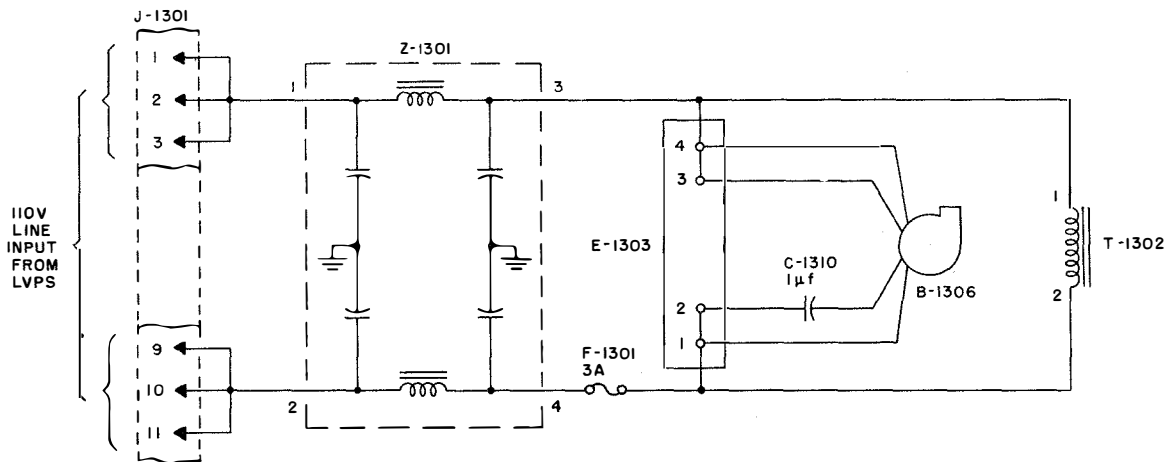

Figure 2-109. R-F Line Filter Z-1301 and Blower Motor B-1306, Simplified Schematic
j. R-F LINE FILTER Z-1301 AND BLOWER MOTOR B-1306.—Single-phase, 110-volt a-c, 60-cycle power is applied through terminals 1, 2, 3 and 9, 10, 11 of receptacle J-1301 to supply power for the RFA blower motor, B-1306, and the primary of the filament transformer, T-1302 (figure 2-109). The power is applied first through a capacity input L-C filter, Z-1301, for each side of the line. This prevents r-f voltages from the filament transformer being fed back into other units through the power line. The power is then fed through fuse F-1301 in one side of the line, to the blower motor, B-1306, and filament transformer primary terminals (terminals 1 and 2 of T-1302). Capacitor C-1310 is the phase-shifting capacitor needed to start and run B-1306.